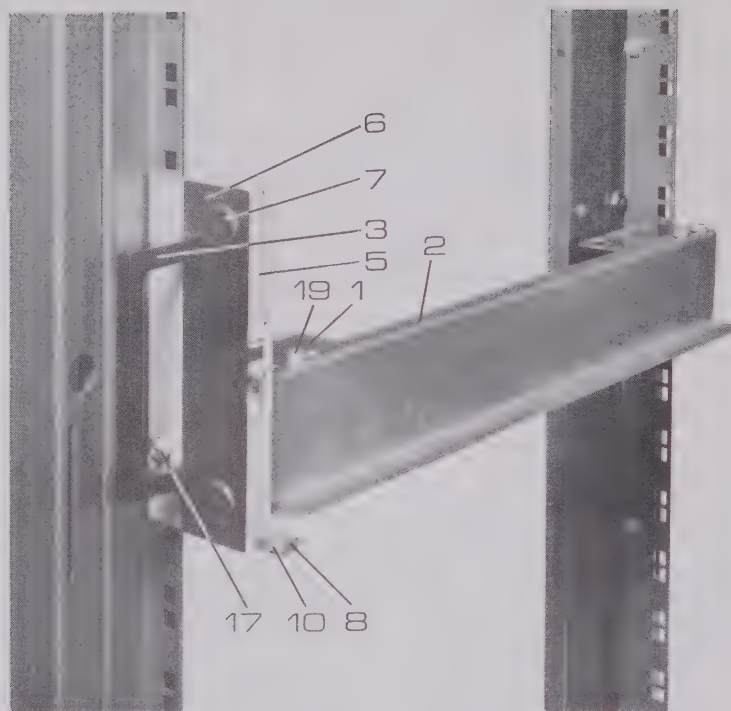

Fig.7.3 Rackmount Assembly - Front View
The runners are assembled as shown in figs.7.3 and 7.4 and fitted to the rack by the outer set of holes. This will ensure that the runners are in the correct position to support the instrument.
4. Attach an angle bracket (item 1) to the front and rear, as shown in figs.7.3 and 7.4. Secure with nuts, (item 15) and washers (item 16). Before tightening, raise the bracket as far as possible.
5. Attach the runner (item 2) using OBA screws, nuts and washers, (items 19, 20 and 21). The runner may be fitted either above or below the angle bracket, depending on the exact dimensions of the rack.